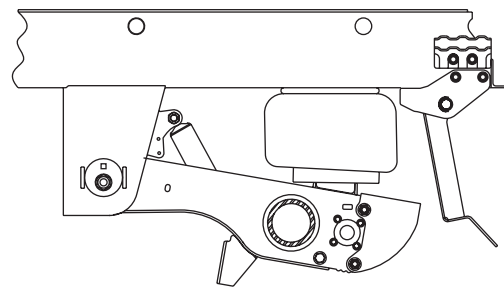

Figure 5: Ride height set too low
height set below the specified minimum ride height value will prevent the SURELOK support arms from properly engaging. See Figure 5.
- B. If ride height is set **below specified minimum** value (Figure 5), The SURELOK support arms (shown in retracted position) cannot contact properly engage the beam.